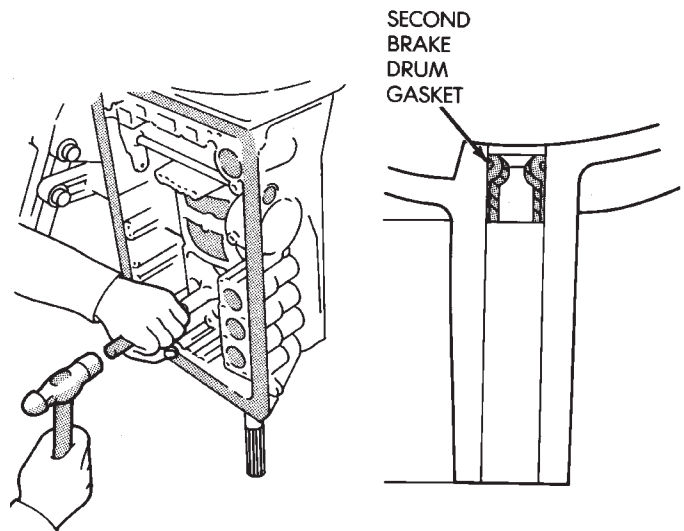

Fig. 47 Removing Brake Drum Gasket
(56) Remove second brake drum gasket from case with gasket scraper or screwdriver (Fig. 47). Retain tube shaped gasket if condition is OK.